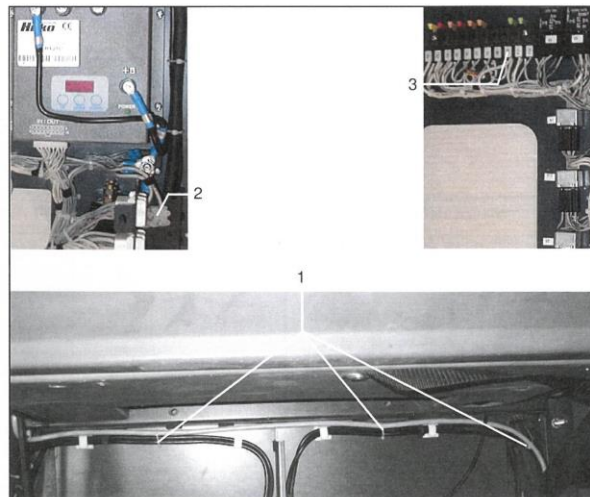

Fig. 6
5. Fix cable in chassis at the engine line (Fig. 6/1) with cable binds.
6. Connect cable and terminal strip of W16 harness (Fig. 6/2).
7. Insert (30A) blade-type fuse in F10 fusebox (Fig. 6/3).